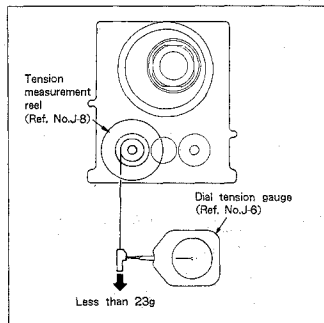

Fig. 7-56.
1. S main brake torque (See Figs. 7-56. and 7-57.)